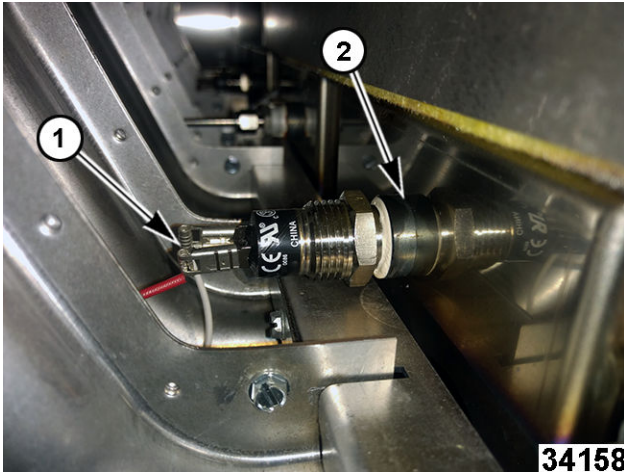

Fig. 66
7. Document and disconnect high limit terminal wires (1, Fig. 66).
8. Remove/unthread high limit (2, Fig. 66) from fry tank.